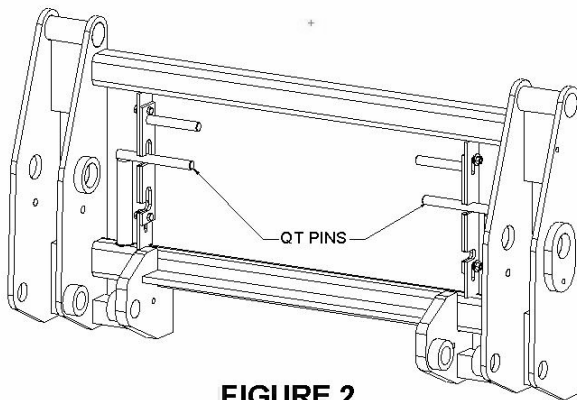

FIGURE 2.
STEP 2 Tilt the bucket forward very slowly. This will lower the upright masts towards the large shafts on the mounting brackets (see Figure 2).
STEP 2 Lower and extend the stand legs and secure them with the stand leg handles in the down position as shown in Figure 2. Install the hairpin cotters to each of the pins.
2. Rotate QT pins out of the lower notches, raise, and then rotate them into the upper notches of the sliding latches as shown in Figure 2.
2. When the QT frame is flat against the attachment, raise the sliding latches as shown in Figure 2.